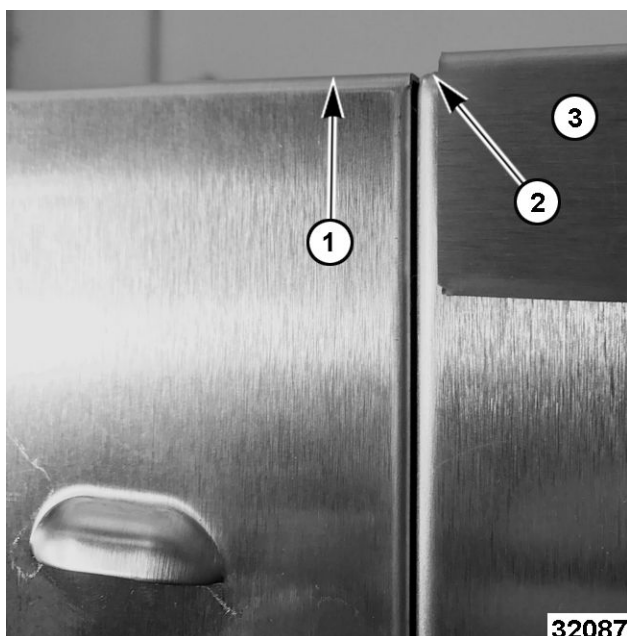

Fig. 122
1. Visually check to see if control panel (1, Fig. 122) is flush with the frame (2, Fig. 122) of the oven along the top (Fig. 121) and side. **Not** with the top trim (3, Fig. 122).